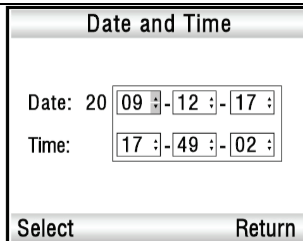

Fig.4-2
2) Press the Down button to select "Date and Time" item, and then press the Menu button to enter the time setup screen, refer to Fig.4-2.
Set other sub-items of data and time according to the "Year setting" illustrated in the above figures 4-2&4-3.